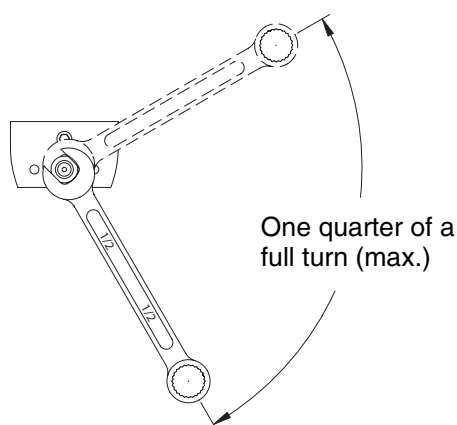

FIG. 8. Tighten Check Valve Retainer
9. Place check valve assembly in check valve retainer and thread into side block finger-tight. Use a 1/2 in. wrench to tighten retainer 1/4 turn and **no more**. See FIG. 8.